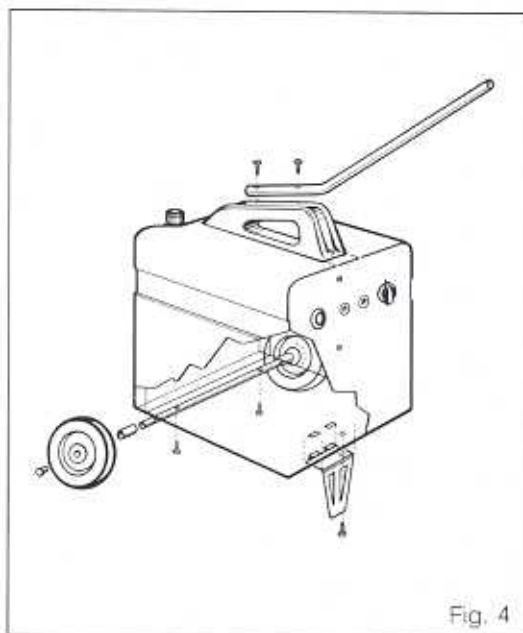

Fig. 4
2) Substitution of torch body **E** (fig. 4).
OPTIONAL (Fig. 4)